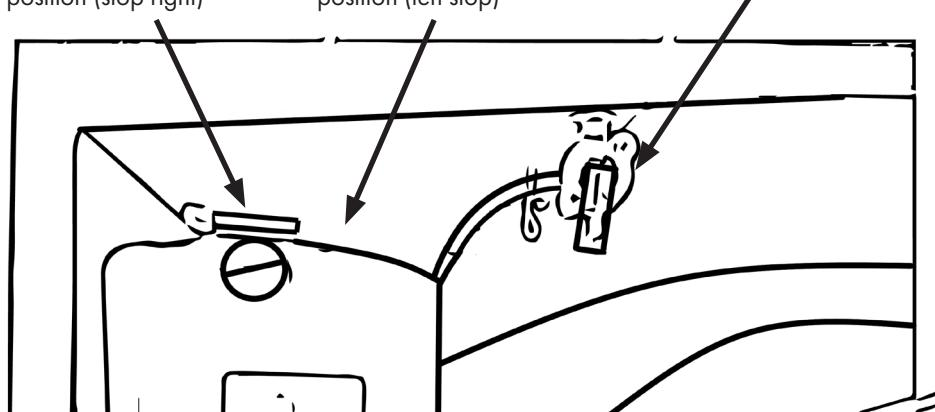

Figure 6
- Open the fuel tap. See also Fig. 6. (Handle on the tap points downwards)